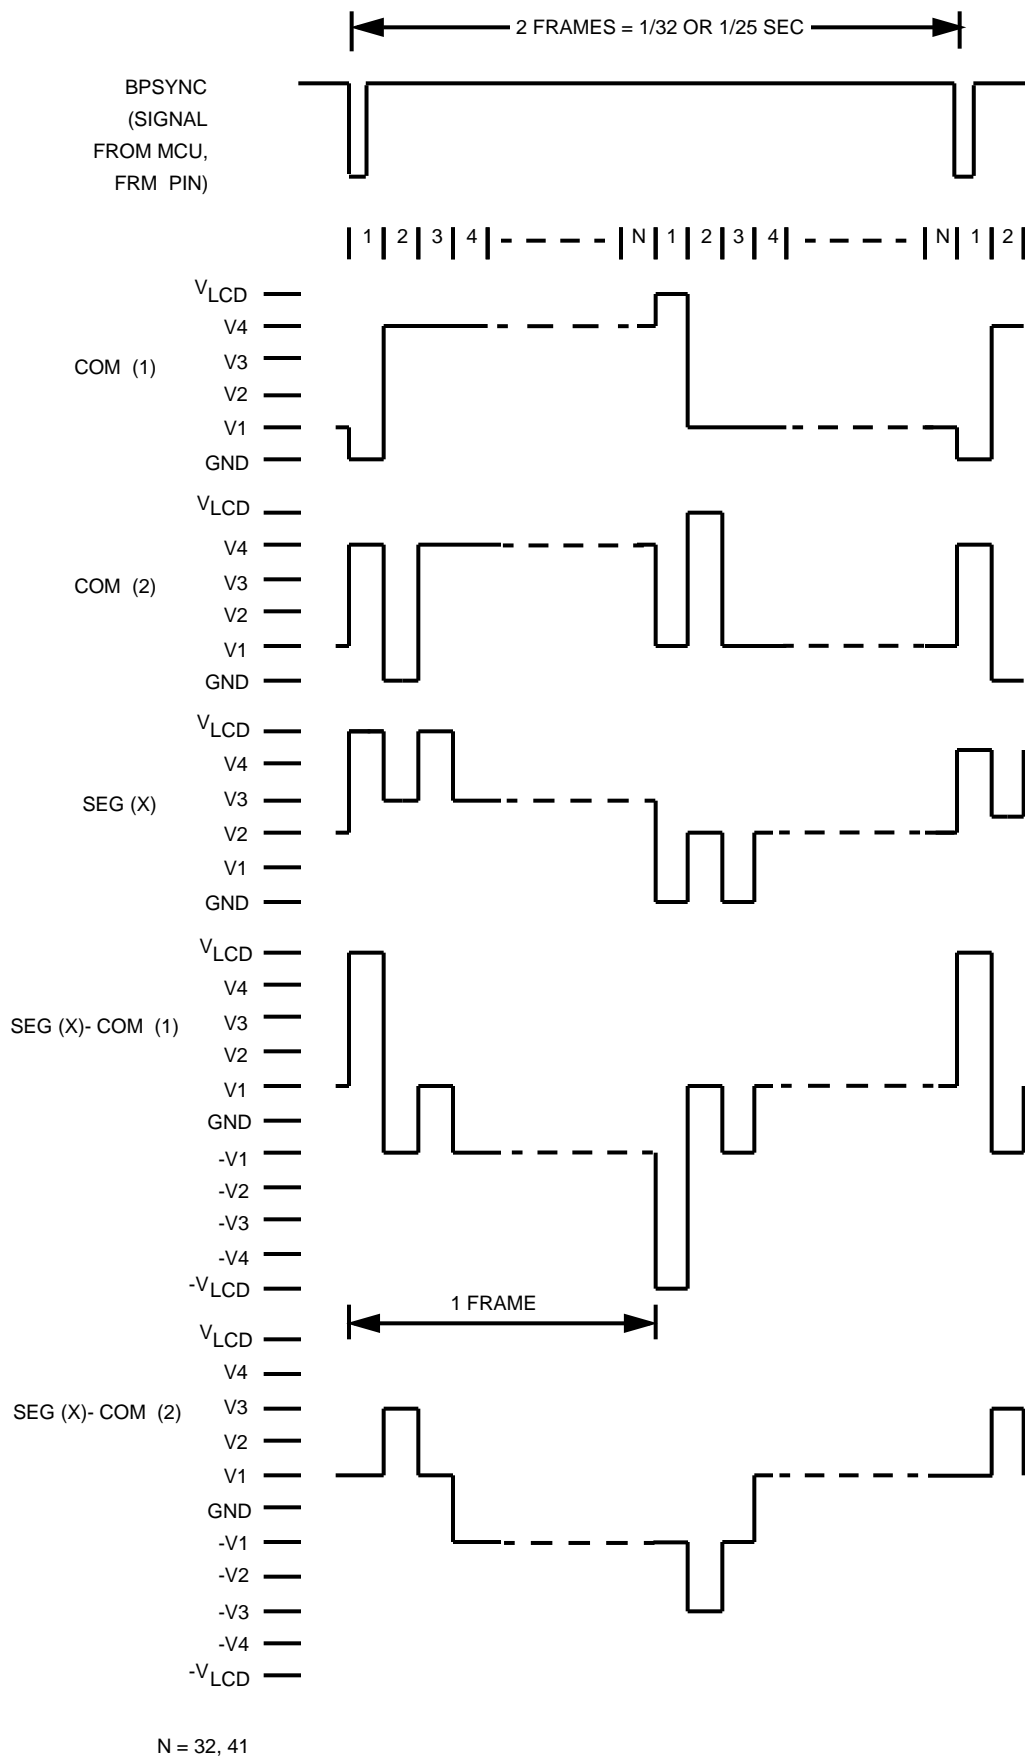

Figure. 7 Driving Waveform of 1:5 Bias, 1:32 or 1:41 Multiplex Ratio
**SEGMENT DRIVERS** - provides the segment driving signals to the LCD frontplane. See Figure 7.